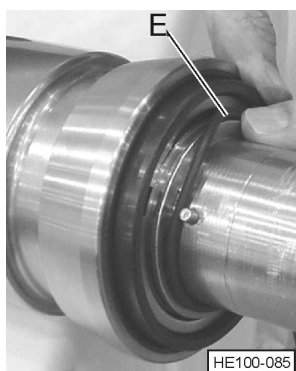

Figure 65 - Install Keeper O-ring
The seal body is held in place on the mutator shaft by two seal drive pins. Each one should be $3/32$ " (± 0.015) above the stub shaft surface. It is extremely important that these pins are not rounded on the edges and that this dimension is maintained. If the pins are higher than $3/32$ ", the seal will jam; if the pins are too low, the body will rotate. See Figure 65 on page 65.
5. Install the "keeper" O-ring (See Figure 65, Item E) on the shaft to keep the rotating parts assembled.